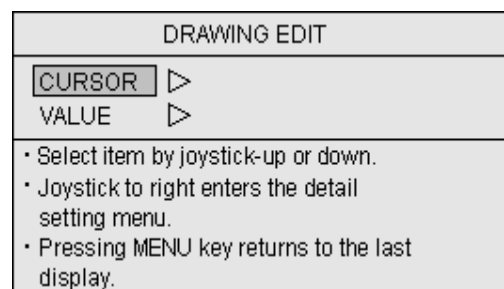

Figure 6.36 DRAWING EDIT menu
- (1) Press the MENU key to display the Main menu.
- (2) Press the Joystick up or down to highlight DRAWING EDIT.
- (3) Press the Joystick to the right to display the DRAWING EDIT menu. (Figure 6.36)